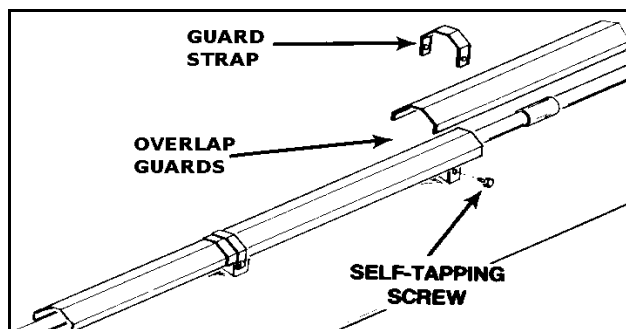

Figure 3.10
2. To install remainder of the driveshaft shielding, work from the bottom up. Shields should overlap at bearing support brackets (Figure 3.10).